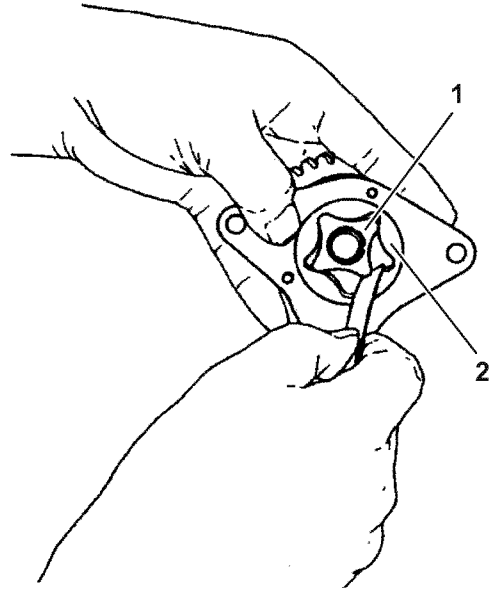

Figure 9-17
Inspect the tip clearance between the outer and inner rotors. To inspect this, insert a feeler gauge between the inner rotor tooth tip (**Figure 9-17, (1)**) and the outer rotor tooth tip (**Figure 9-17, (2)**), and measure the clearance.